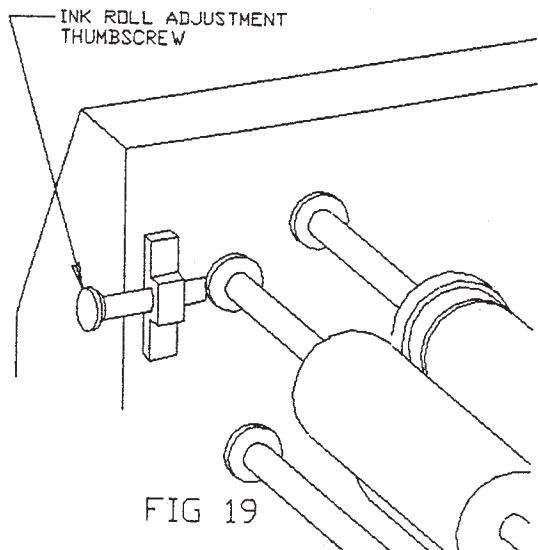

FIG 19
13. Adjust the tension of the Ink Roller so that it lightly touches Signature Saddle, by rotating Ink Roller Adjustment Thumbscrews uniformly. (Fig. 19)